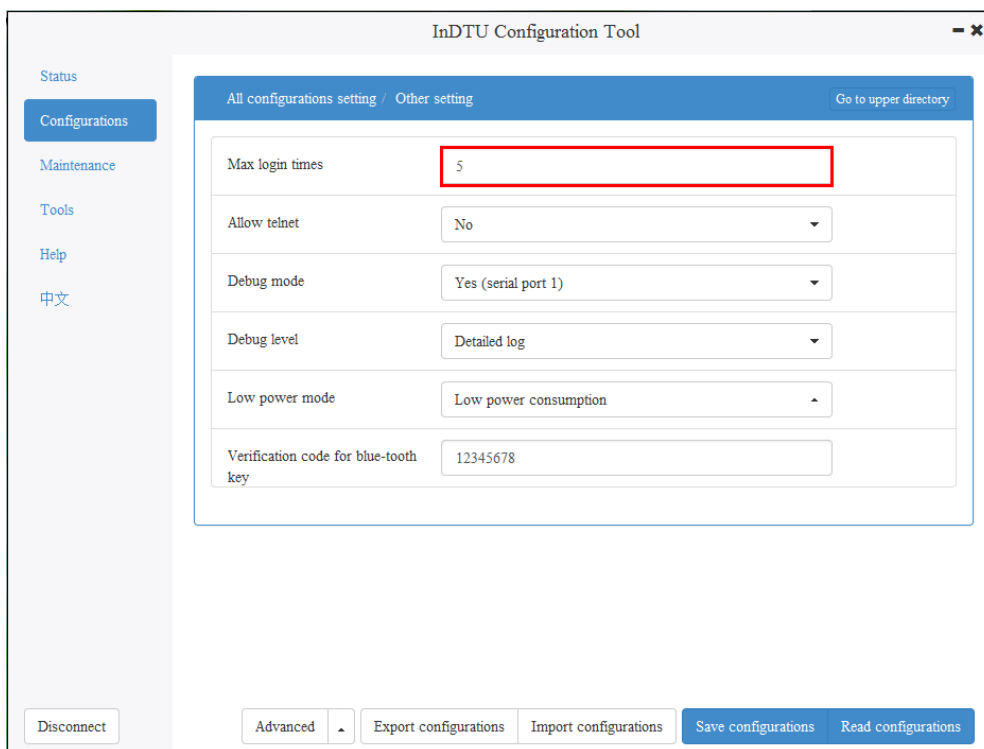

Figure 4-9-3 Dual-SIM switching setting 3
Step 3: Choose **Configurations > All Configurations Setting > Other setting** and set **Max login times** as required, as shown in Figure 4-9-3.